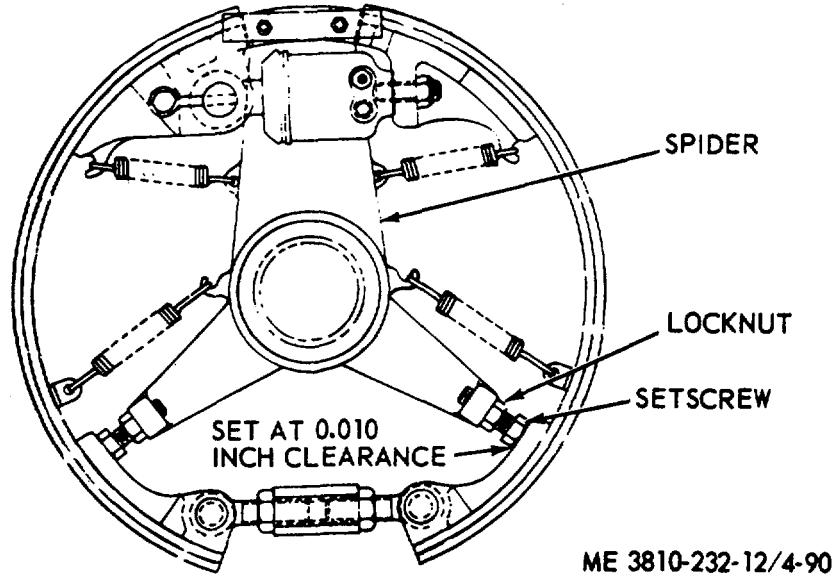

Figure 4-90. Auxiliary clutch adjustment.
- b. Use a feeler gage to set distance between dead end setscrew (fig. 4-90) on spider and band (not lining) at 0.010 inch.